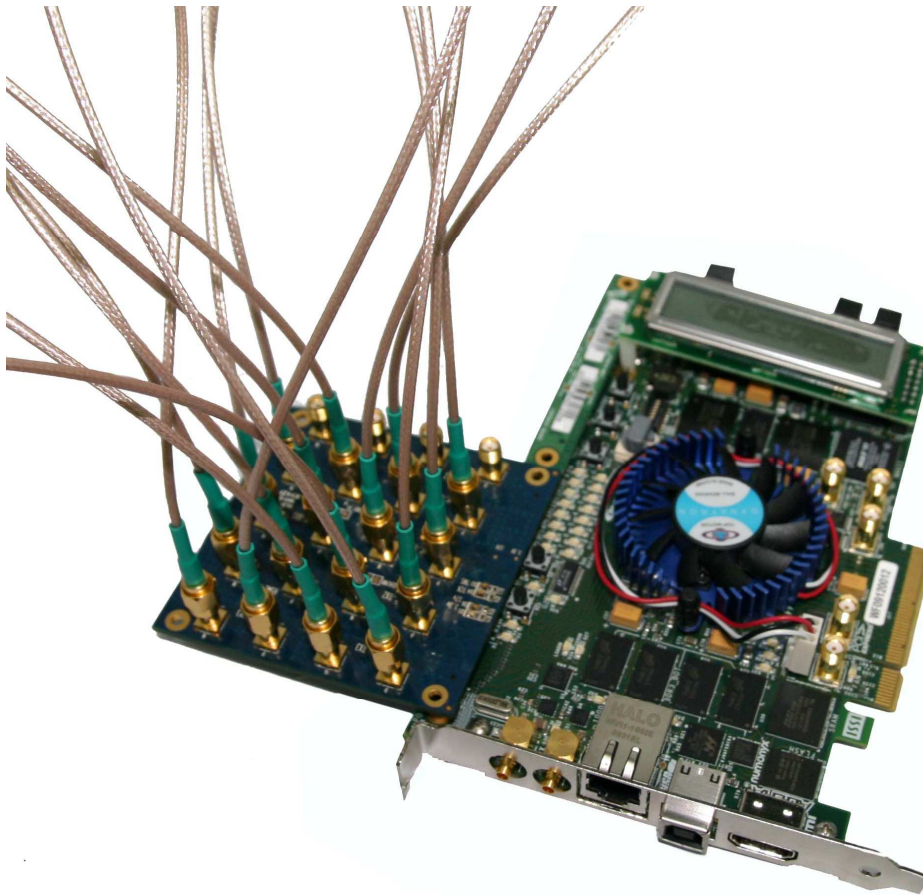

Figure 4.5 Transceiver loopback test setup
- iv. Connect the XTS card to Stratix IV GX FPGA Development Board (See Figure 4.5).